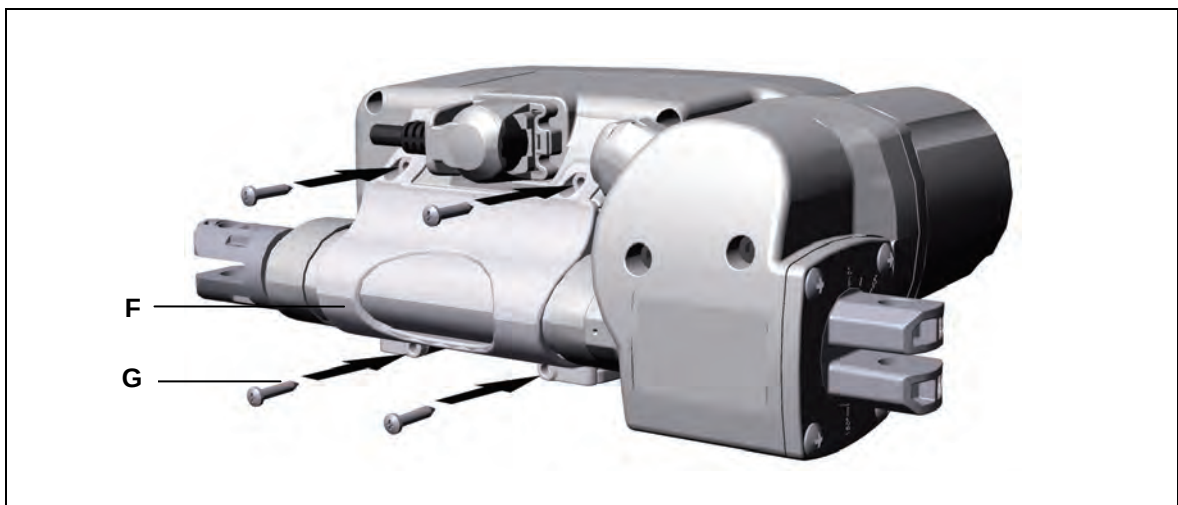

Figure 14 Mounting clip assembly
- 2 The motor casing cover of the MFZ drive must lie in the guide (C) as shown in Figure 14.
- 3 Screw the mounting clip (F) onto the MCL II control unit.